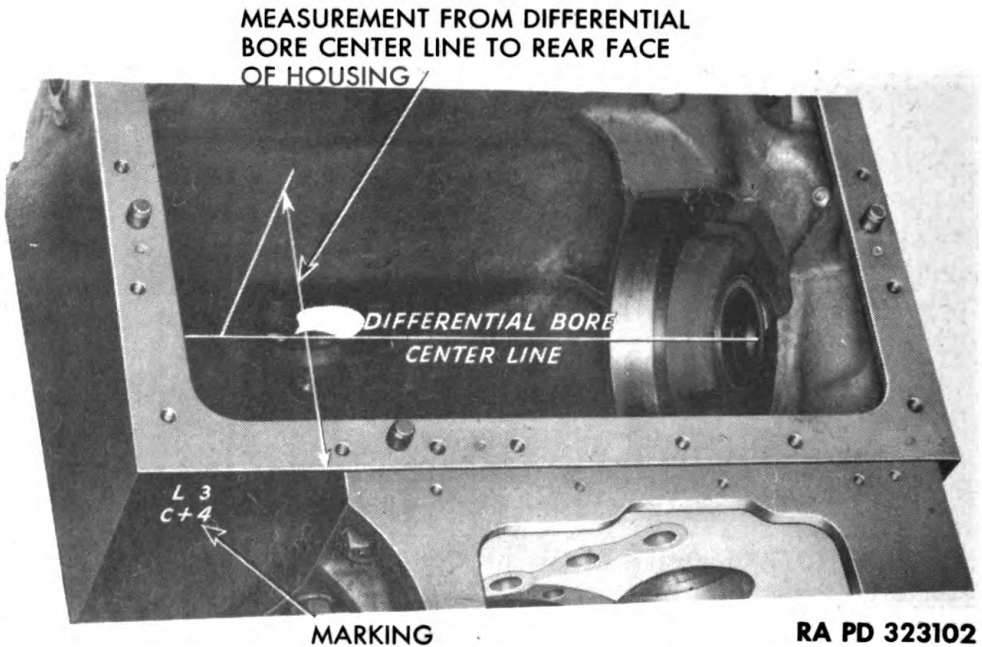

Figure 103 — Differential and Final Drive Housing Marking
(2) **MARKINGS ON HOUSING.** On upper left corner of housing surface to which transmission case is attached are stamped two sets of code letters and numbers (fig. 103). The "L" or "H" letters must be disregarded because they are used only for assembly purposes in manufacturing the vehicle. The letter "C" and the number following indicate in thousandths of an inch the individual variation from a standard dimension measured from the center line of the differential bore to the rear face of the housing to which the transmission case attaches. When replacing differential and final drive housing, compare the "C" number on the housing being removed with that on the housing to be installed. If the difference is more than 2 (0.002 inch), the shim pack on the transmission output bevel pinion bearing case must be changed to maintain the proper tooth contact between the bevel drive gear and the transmission output pinion. **NOTE:** *Changing shim pack thickness requires complete disassembly of the transmission* (par. 6). **EXAMPLE:** If housing being removed is stamped "C-3" and new housing is stamped C+2, there is a difference of 0.005 inch between the two housings. If the same bevel drive gear and transmission output bevel pinion are used again, a 0.005-inch shim must be added to the output bevel pinion shim pack as described in paragraph 8 c (3). If the housing removed is stamped "C+5" and new housing is stamped "C-5," it indicates there is a difference of 0.010 inch. To maintain proper tooth contact between bevel drive gear and bevel pinion, 0.010-inch shim thickness must be removed from shim pack.
(4) Change bevel pinion shim pack in transmission if necessary (pars. 6 l and 8 c).